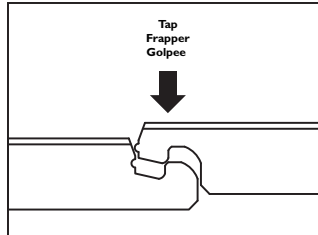

Fig. 3 – Tap end joints.
6. Lay pieces from left to right. Lock the end joints by aligning the end tongue with the end groove of the previous board then tapping the joints together. See Figure 3.